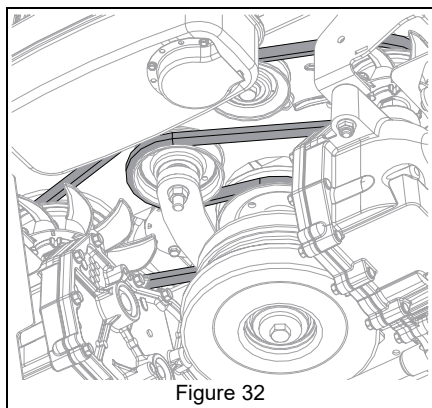

Figure 32
1. Install ground drive belt. See Figure 32.